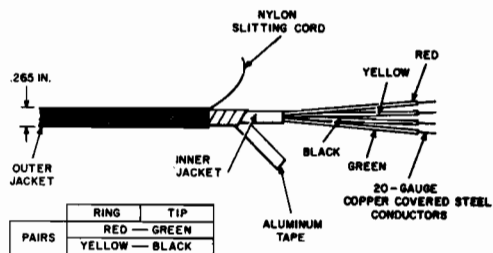

Fig. 2—F-59307 Filled Service Wire
3.01 F-59307 filled service wire (Fig. 2) is the same as B service wire except: